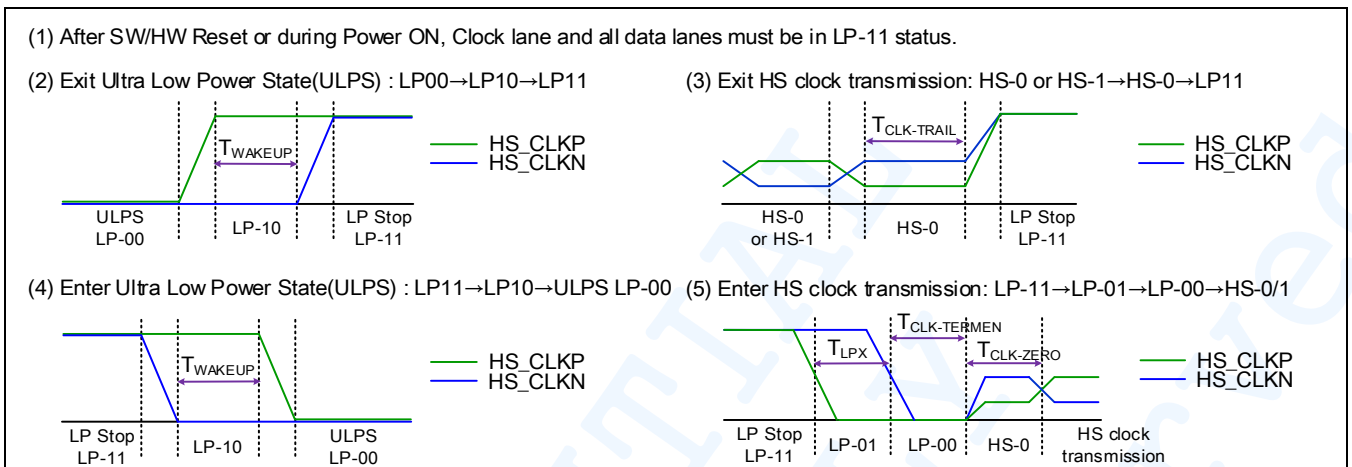

Figure 44 Clock Lane Switching State Diagram
Figure 44 shows the structure of the Long packet. A Long packet shall consist of three elements: a 32-bit Packet Header (PH), an application-specific Data Payload with a variable number of bytes, and a 16-bit Packet Footer (PF). The Packet Header is further composed of three elements: an 8-bit Data Identifier, a 16-bit Word Count, and 8-bit ECC. The Packet Footer has one element, a 16-bit checksum. Long packets can be from 6 to 65,541 bytes in length. In the Long Packet, Packet Footer is added after Packet Data. Packet footer includes CRC calculated from Packet Data as checksum.